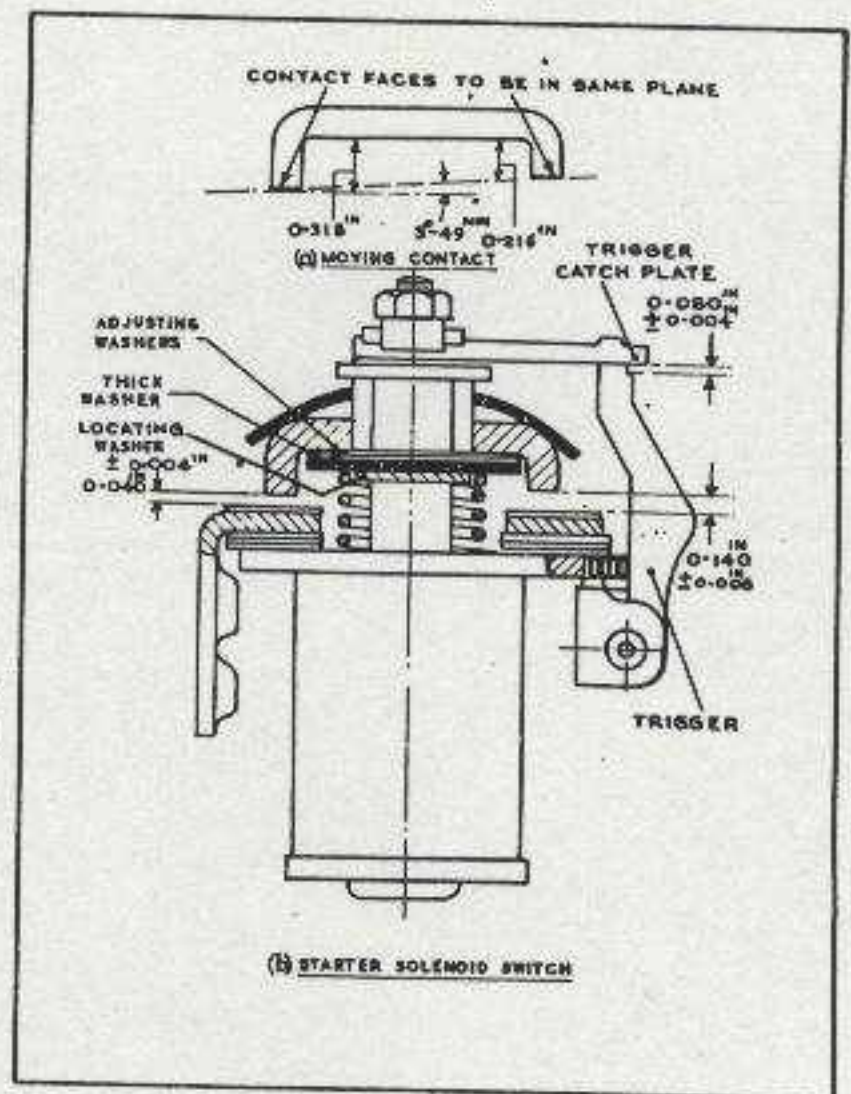

FIG. 39 - STARTER MOTOR NO 1,
81. Dismantling (see Fig. 39):-
- (c) Withdraw and clean the moving contact. If badly pitted or burnt, renew or reface. See Fig. 39(a).